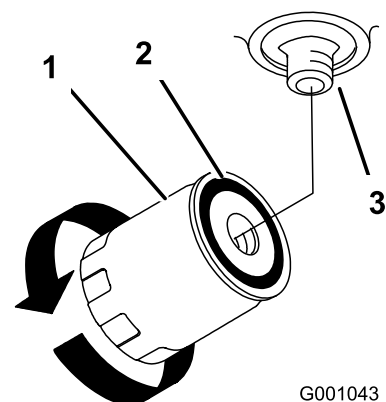

Figure 70
5. Remove the old filter and wipe the filter adapter gasket surface clean (Figure 70).
9. When the hydraulic filter is full, turn the oil filter clockwise until the rubber gasket contacts the filter adapter, then tighten the filter an additional 1/2 turn (Figure 70).